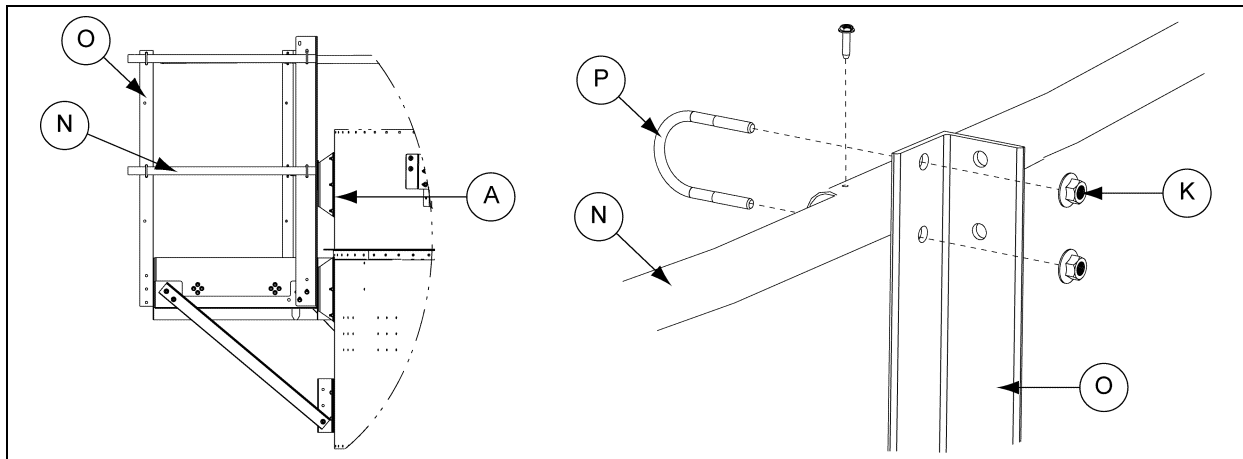

Figure 5G
8. Install the handrails (N) to the handrail posts (O) using U-bolts (P) and nuts (J). *(See Figure 5G.)*